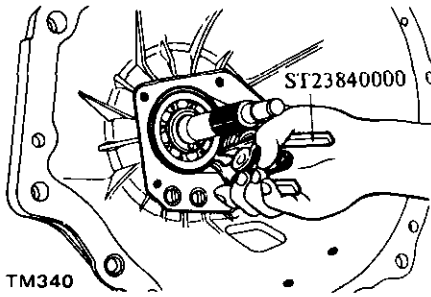

Fig. MT-7 Removing main drive bearing snap ring
10. Remove main drive bearing snap ring with Expander ST23840000. See Figure MT-7.